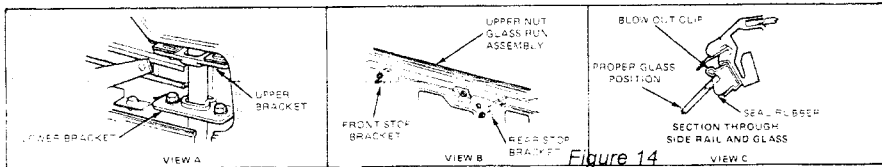

Figure 14
2. In/out tilt adjustment may be achieved by loosening bolts on bottom nylon bracket on window bracket (Fig. 14, View A). Move nylon bracket in or out to achieve proper positioning.
1. Locate stop adjustment nuts (two in front, two in rear, Fig. 14, View B). Loosen nuts and adjust stop bracket from inside door up or down to location desired. Tighten nuts when desired location has been achieved.
1. Loosen bolts on upper nylon bracket (Fig. 14, View C).